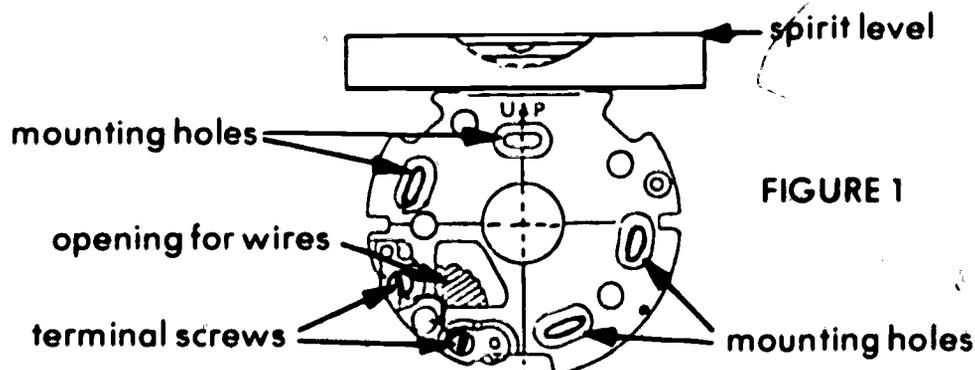

FIGURE 1
- G. Mark spots for mounting screws (Figure 1)